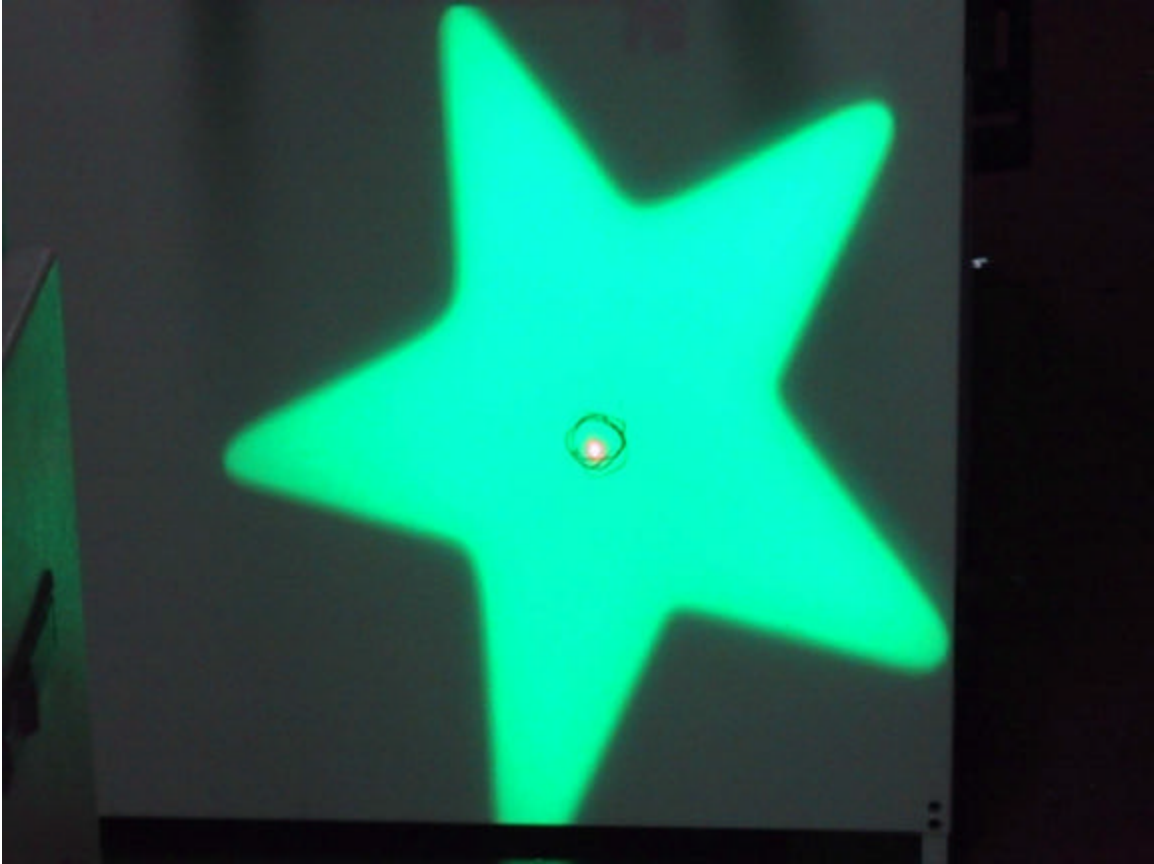

Figure 3
- b. The PocketScan should move to place a green STAR pattern on the target. A red dot (the PocketScan's laser) should be flashing, approximately centered in the star, and appear within the circle of the target. See figure 3.